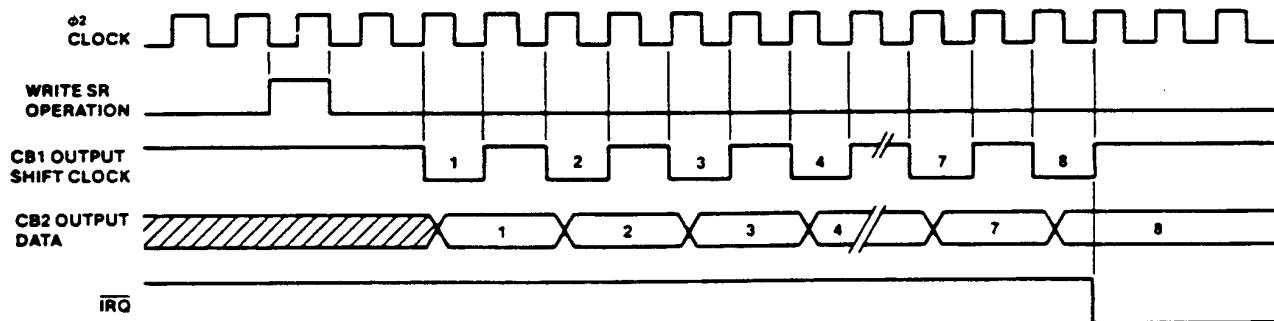

Figure 35. Shift Out—φ2 Control
**Shift Out— $\phi_2$  Clock Control (110)**—In this mode, the shift rate is controlled by the system  $\phi_2$  Clock. Refer to Figure 35.